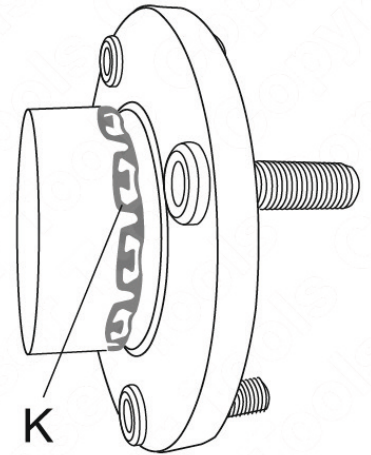

Fig 4
- Turn force screw until bearing/flange is fully home. If fitted, ensure that the tangs of the barbed retaining ring (K) are correctly seated in the retaining groove. See Fig 4.